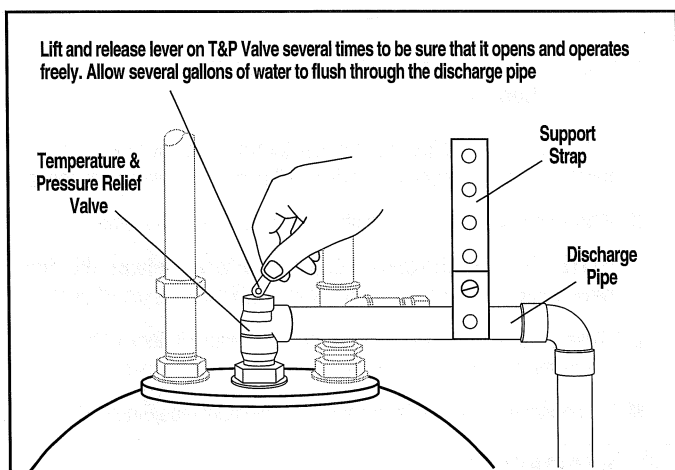

Figure 16 — Manually Operating the Temperature and Pressure Relief Valve
- C. At least once a year, lift and release the lever handle on the temperature pressure relief valve, located on top of the water heater, to make certain the valve operates freely and allow several gallons to flush through discharge line (see Figure 16). Make certain the discharged water is directed to an open drain.